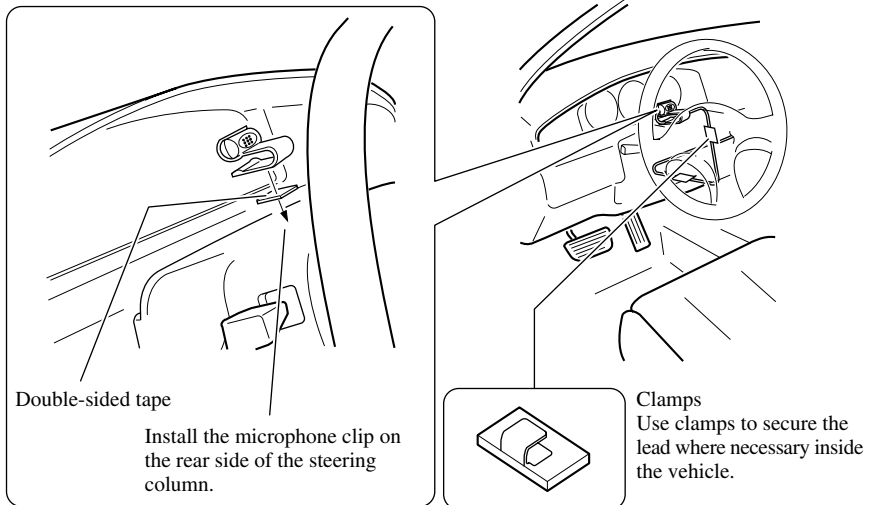

Fig. 19
2. Install the microphone clip on the steering column. (Fig. 19)